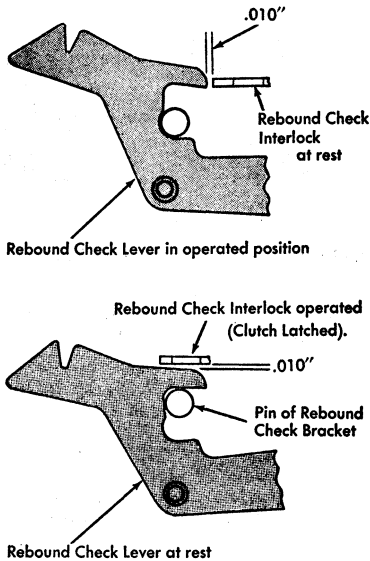

Figure 49. Rebound Check Interlock Lever
17. THE REBOUND CHECK INTERLOCK LINK is adjusted so that the interlock lever clears the tab rebound check lever by about $.010$ " when the rebound check lever is in its operated position. With the clutch unlatched, operate the tab lever by hand to observe this adjustment (Figure 49). Operate the carriage return cam by hand and observe that the rebound check interlock does not strike the rebound check lever at rest. Form the top of the interlock lever front to rear to provide a clearance of about $.010$ " (Figure 49).